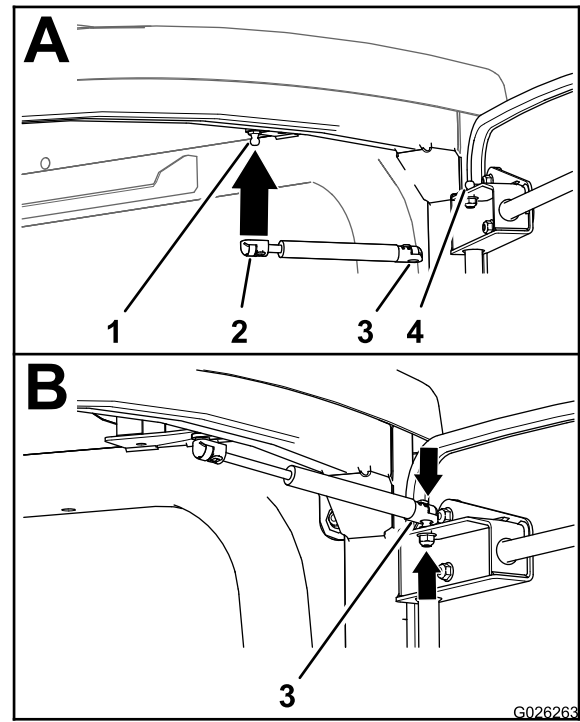

Figure 3
4. Install the fitting at the rod end of the door strut onto the ball stud at the cab frame (Figure 3).
5. Install the fitting at the cylinder end of the strut onto the ball stud at the door frame (Figure 3).